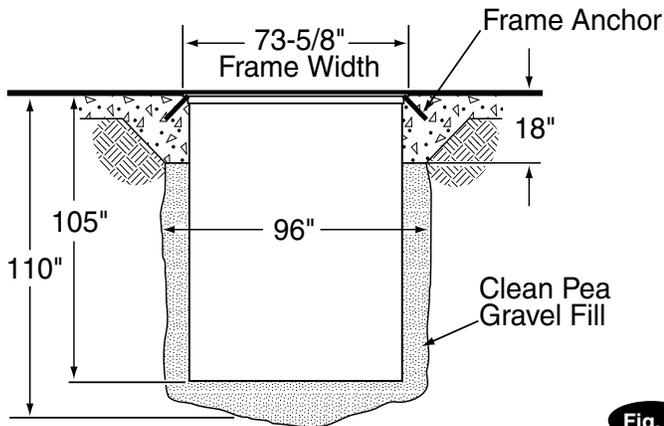

Fig. 2
2. **Excavation:** Excavate hole to dimensions shown in Fig. 2. Dig trench for 2" PVC pipe between lift and power unit location. Trench should be dug 11" below finished floor grade. Air line and hydraulic hose to be contained in this 2" PVC pipe.
B. Bend frame anchors out perpendicular to concrete frame and downward approximately 45° to floor level, Fig. 2.
A. Wall Mounting: For operating convenience, locate Power Unit bracket so top of bracket will be approximately 56" above floor, Fig. 2.